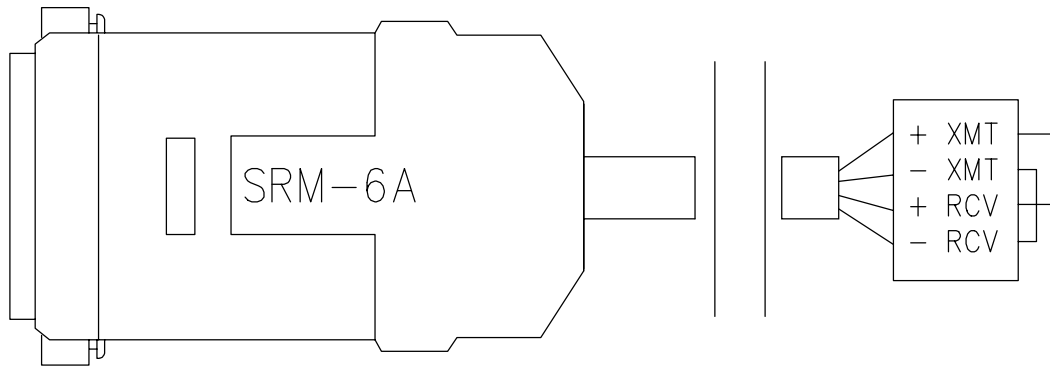

FIGURE 3.1-2 RAD Testing Datalogger End
2. Reconnect the 4 conductor cables to the modem at the computer end, and disconnect the cable from the modem at the datalogger end. Twist the XMT + wire to RCV + wire, twist the XMT - wire to RCV - wire. Repeat the process of step 1 by pressing any key on the computer keyboard. If the key pressed is not displayed on the monitor, the cable connections modem is defective and will need to be repaired or replaced (Figure 3.1-2).